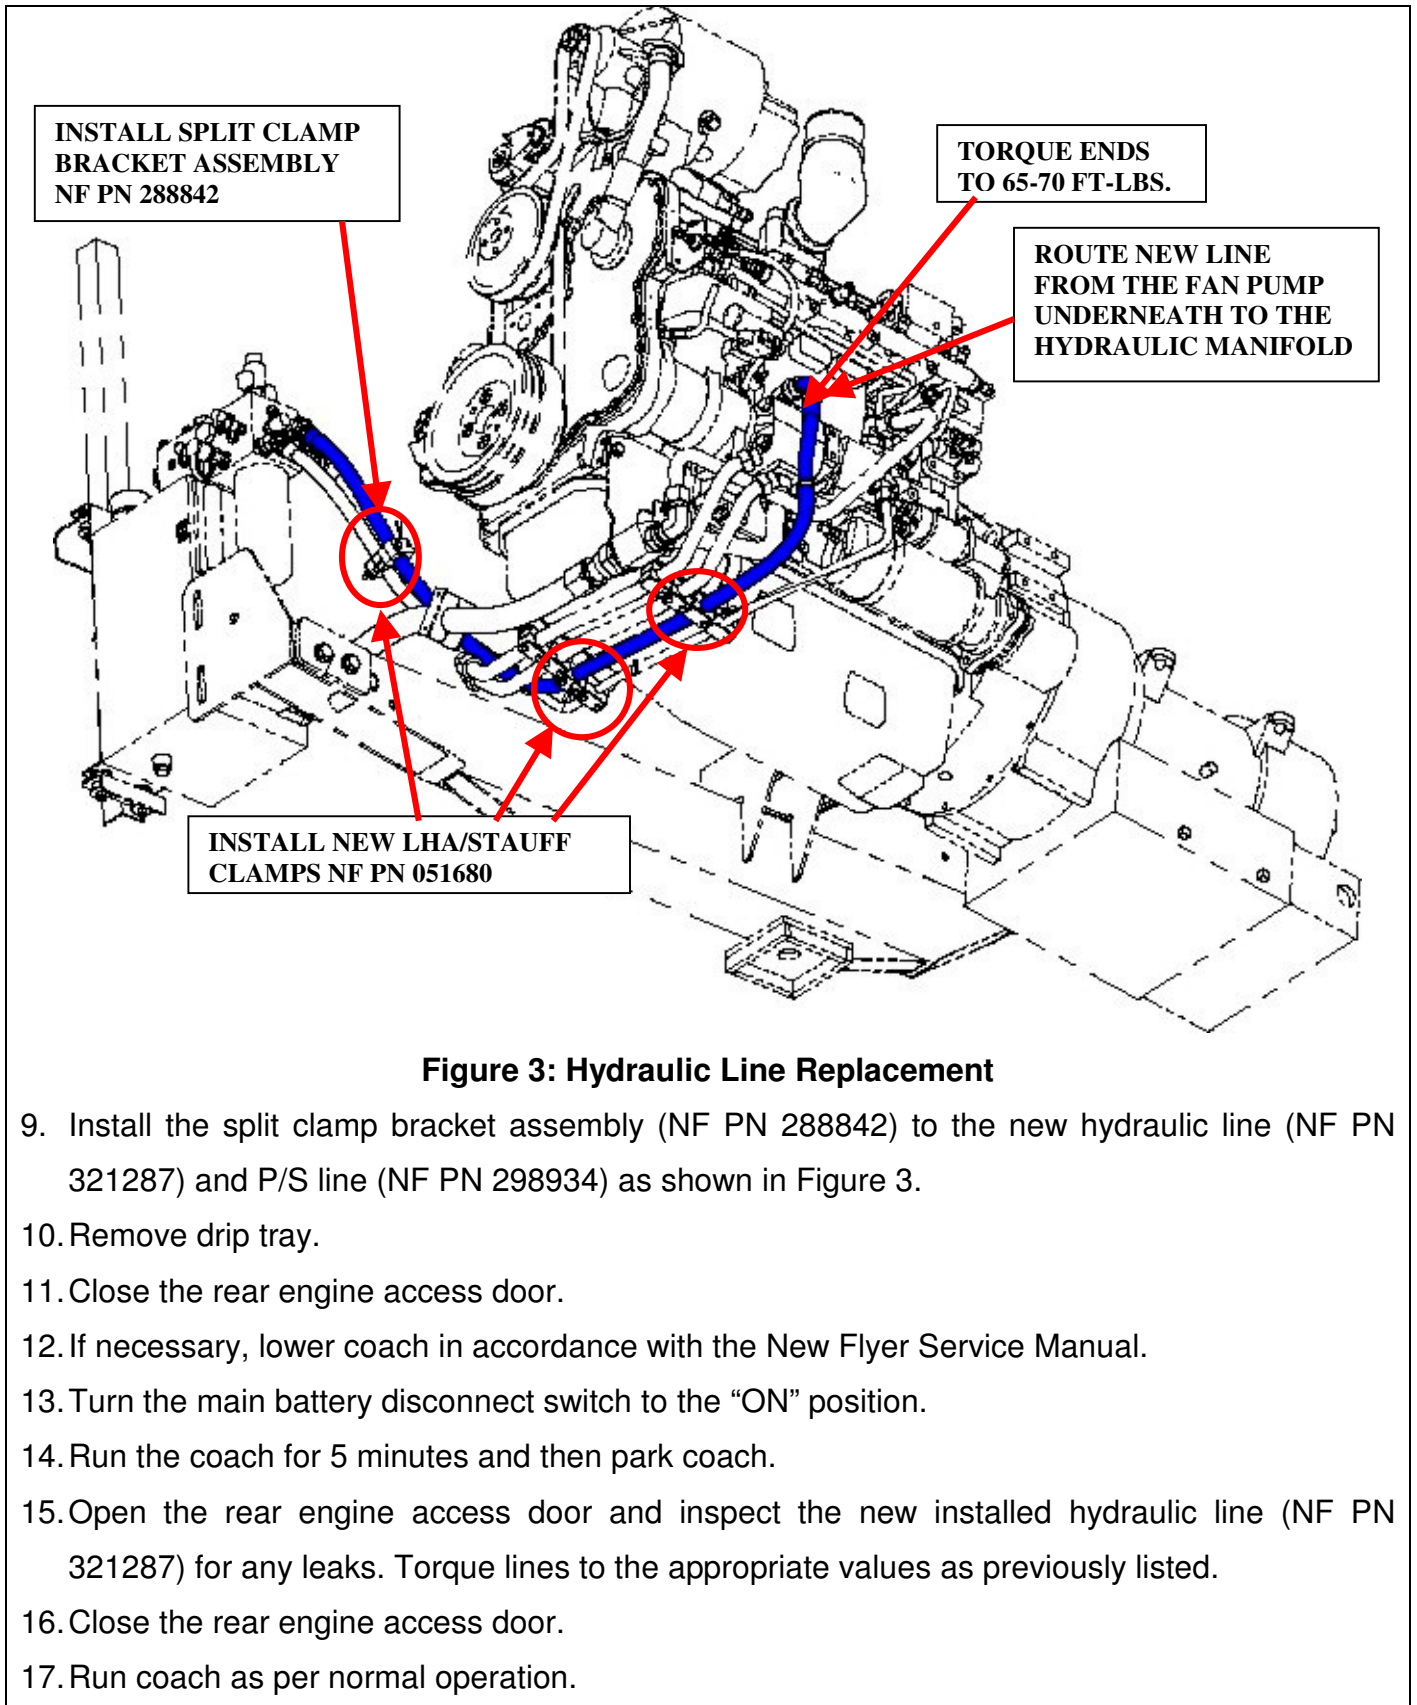

Figure 3: Hydraulic Line Replacement
9. Install the split clamp bracket assembly (NF PN 288842) to the new hydraulic line (NF PN 321287) and P/S line (NF PN 298934) as shown in Figure 3.